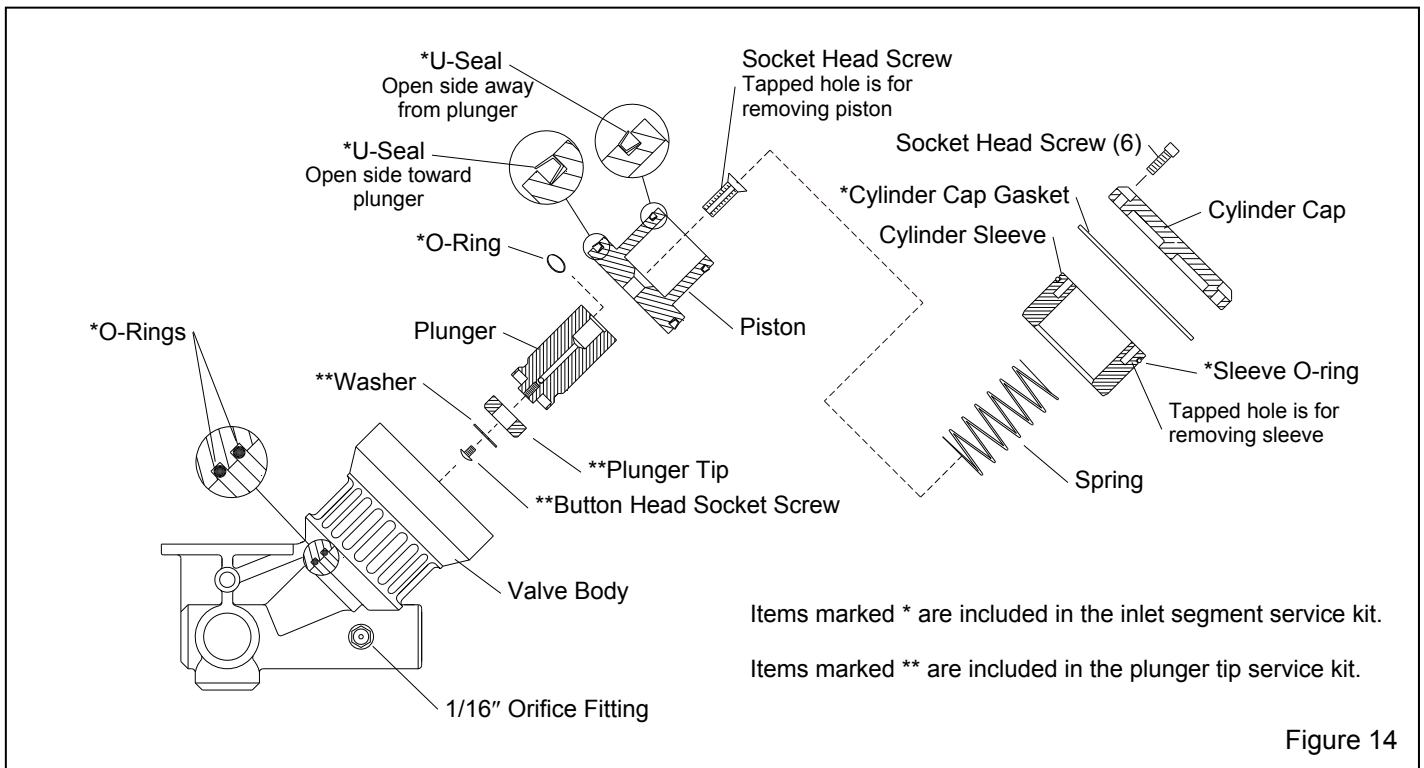

Figure 14
6.3 Millennium Valve Inlet Segment, Figure 14.
6.3.10 Place the u-seals into the grooves on the piston, the open side of the large seal faces the plunger, and the open side of the small one faces away from the plunger, as shown in Figure 14.
6.3.15 If fittings on the body were removed, make sure the 1/16" orifice fitting is threaded into the port, as shown in Figure 14.